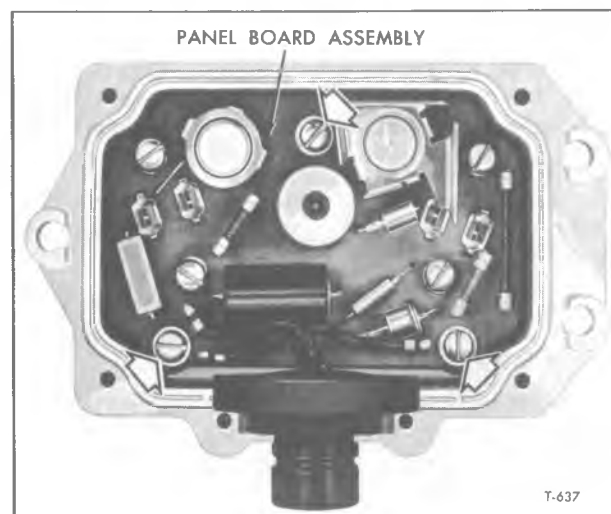

Figure 24—Regulator with Bottom Plate Removed
1. Remove the bottom plate from the regulator (fig. 24).
2. Remove the three panel board attaching screws identified by arrows (fig. 24), and lift the assembly from the housing.